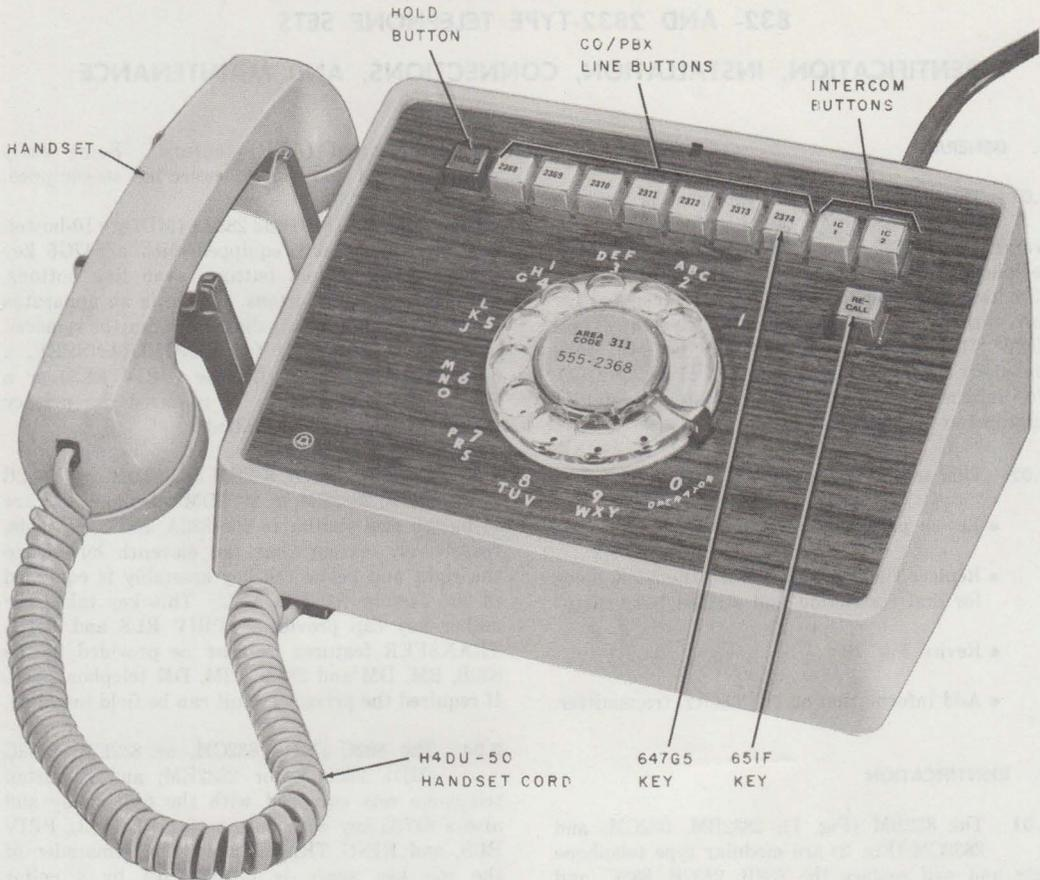
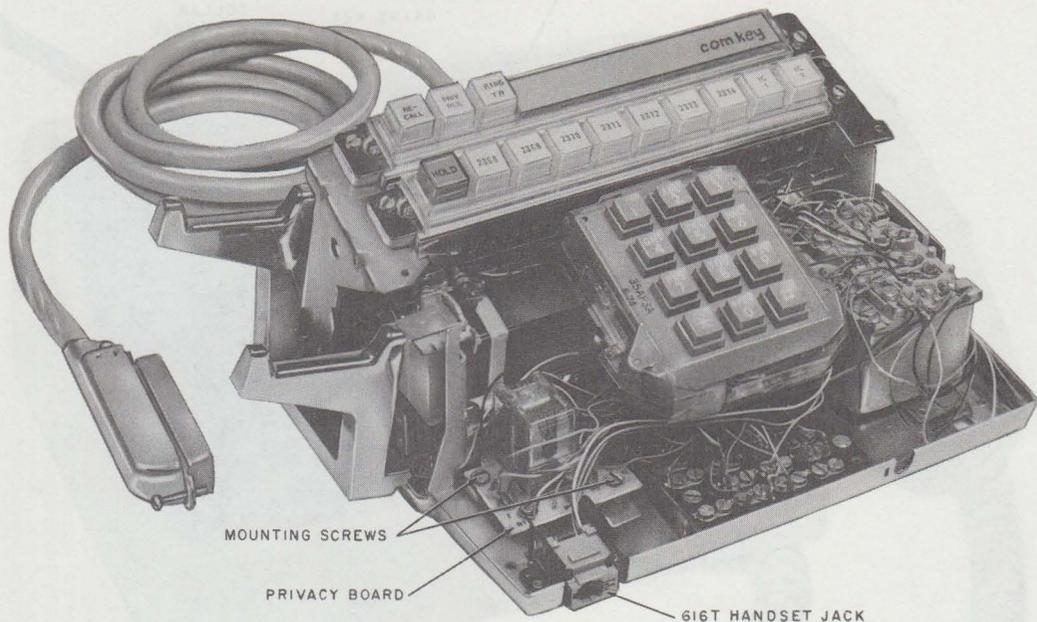

Fig. 1—832BM Telephone Set
Fig. 3—2832CM Telephone Set Base
2.01 The 832BM (Fig. 1), 2832BM, 832CM, and 2832CM (Fig. 2) are modular type telephone sets and will replace the 832B, 2832B, 832C, and 2832C telephone sets, respectively, which are hereby rated MD. The 832DM, 2832DM, 832EM, and 2832EM are also modular sets and are electrically and functionally equivalent to the 832BM, 2832BM, 832CM, and 2832CM sets, respectively, except that they have been adapted for wall mounting. The modular sets will all be equipped with a G15A-50 handset and H4DU-50 handset cord which will plug into a 616T jack mounted on the left front of the telephone set base (Fig. 3). Current production models of these sets also are equipped with an improved line switch and an improved Automatic
- (1) Mount privacy circuit board on the two standoffs located at left front of the telephone set base (Fig. 3).
- (2) Fasten circuit board to standoffs using mounting screws furnished with the telephone set.
- (3) Connect leads according to Table C.
- (4) Refer to paragraph 3.06 for testing the privacy release key.
(1) If feature is to be added to DM- or EM-type set, a 268A adapter must be used as follows:
- (a) Mount 268A adapter onto 833A-50 adapter with two screws as shown on Fig. 3